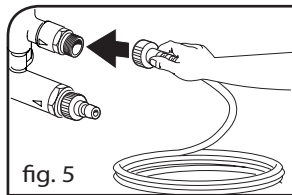

fig. 5
1. Connect the high pressure hose to the unit's high pressure outlet (fig.5).